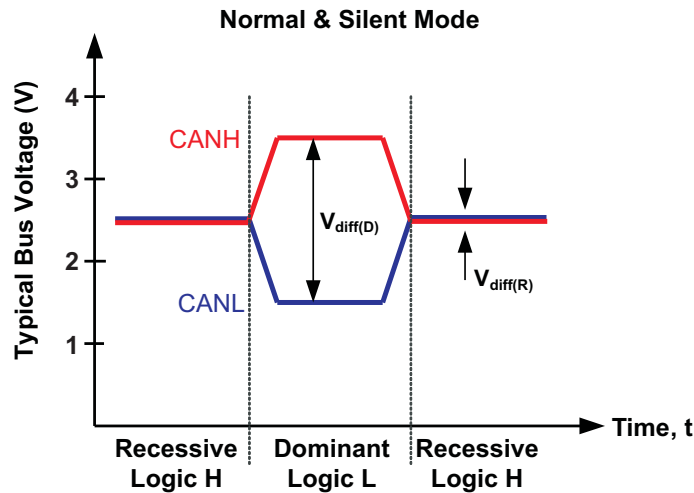
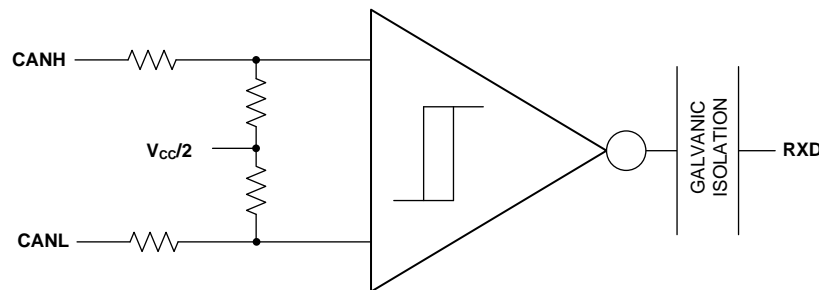

Figure 23. Bus States (Physical Bit Representation)
Figure 24. Simplified Recessive Common Mode Bias and Receiver
The CAN bus has two states during operation: *dominant* and *recessive*. A dominant bus state, equivalent to logic low, is when the bus is driven differentially by a driver. A recessive bus state is when the bus is biased to a common mode of $V_{CC} / 2$ through the high-resistance internal input resistors of the receiver, equivalent to a logic high. The host microprocessor of the CAN node will use the TXD pin to drive the bus and will receive data from the bus on the RXD pin. See Figure 23 and Figure 24.
(1) H = high level, L = low level, Z = common mode (recessive) bias to $V_{CC} / 2$. See Figure 23 and Figure 24 for bus state and common mode bias information.